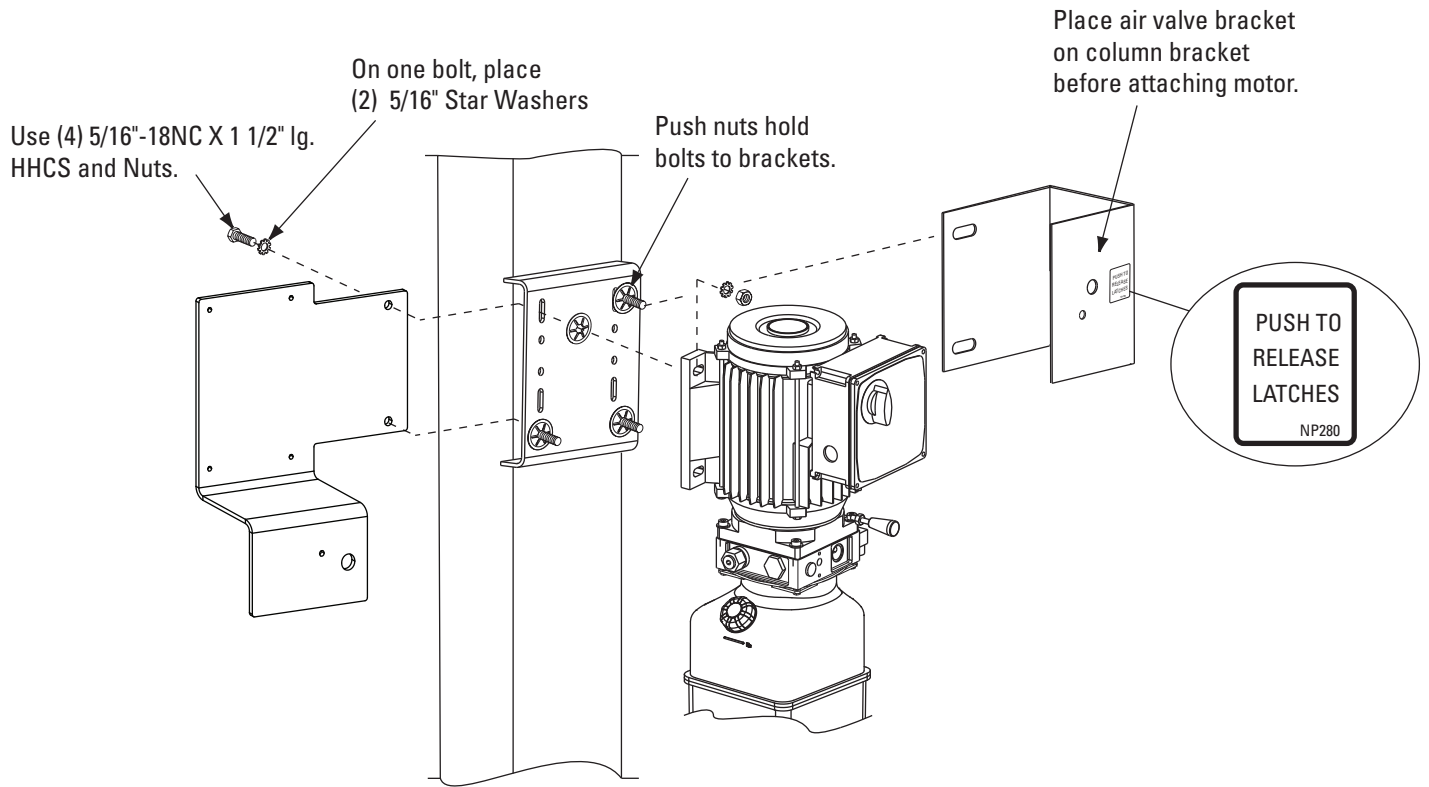

Fig. 16
- A. Align Air Valve Bracket with holes in right side of column bracket, Fig. 16.
- B. Put four  $\frac{5}{16}$ " x  $\frac{1}{2}$ " lg. hex. bolts through holes in column bracket, using push-nuts to hold in place. When using 3Ø Control Box with push button, position mounting bracket to the rear of the power unit bracket and attach using two (2) of the  $\frac{5}{16}$ " -18NC x 1 1/2" HHCS, Fig. 16.
- D. Attach enclosed NP280 decal ("PUSH TO RELEASE LATCHES") below button on air valve bracket, Fig. 16.